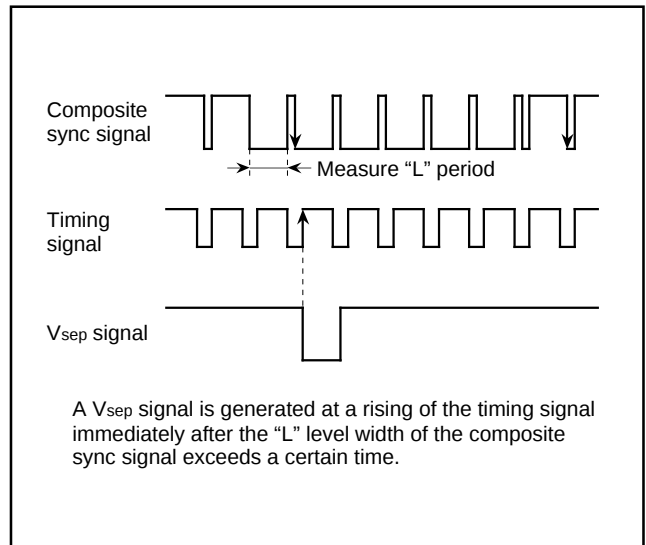

Fig. 26. Vsep Generating Timing (method 2)
- Method 2 The "L" level width of the composite sync signal is measured. If this width exceeds a certain time, it is detected whether a falling of the composite sync signal exists or not in the "L" level period of the timing signal immediately after this "L" level. If a falling exists, a Vsep signal is generated in synchronization with the rising of the timing signal (refer to Figure 26).
Figure 26 shows a Vsep generating timing. The timing signal shown in the figure is generated from the reference clock which the timing generating circuit outputs.